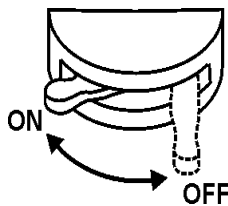

Figure 33. Battery ON/OFF Switch
5. Set the battery ON/OFF switch (Figure 33) to the "ON" position.